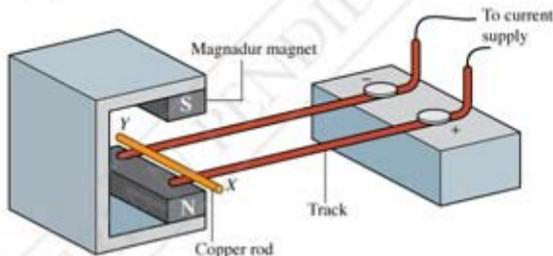

Figure 4.15
- Figure 4.15 shows the arrangement of apparatus to study the effect of a force on a current-carrying conductor.